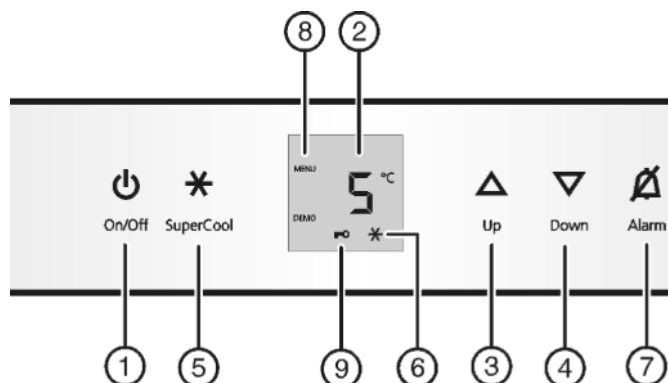

Fig. 2
- Press On/Off button Fig. 2 (1).
- To activate the setting mode: press SuperCool button Fig. 2 (5) for about 5 s.
- ▷ The menu symbol Fig. 2 (8) shines.
- Briefly press the SuperCool button Fig. 2 (5) to confirm.
- ▶ to activate the child lock, briefly press the SuperCool button *Fig. 2 (5)*.
- ▷ The child lock symbol *Fig. 2 (9)* shines. **c** flashes in the display.
- ▶ to deactivate the child lock, briefly press the SuperCool button *Fig. 2 (5)*.
- ▷ The child lock symbol *Fig. 2 (9)* goes out. **c** flashes in the display.
- ▶ To deactivate the set-up mode: press On/Off button *Fig. 2 (1)*.
- ▶ Press alarm button *Fig. 2 (7)*.
- ▶ For a higher temperature setting: press Up button *Fig. 2 (3)*.
- ▶ For a lower temperature setting: press Down button *Fig. 2 (4)*.
- ▶ Briefly press SuperCool button *Fig. 2 (5)*.
- ▷ The SuperCool symbol *Fig. 2 (6)* lights up in the display.
- ▷ The SuperCool symbol *Fig. 2 (6)* goes out in the display.